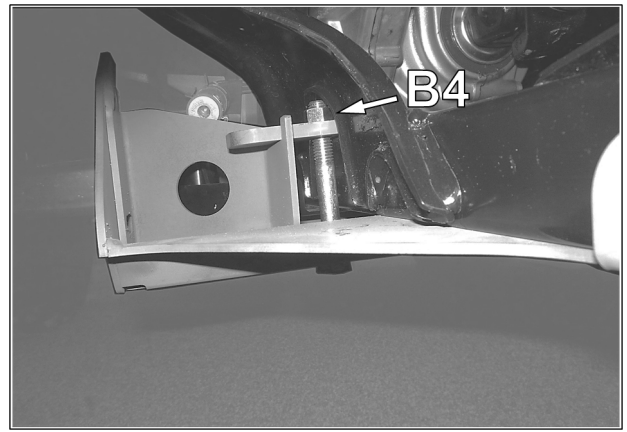

Fig. 6
- Secure the plate in position using nylon nuts (B4) over the bracket cover. Tighten these two assembly bolts to 50 N•m [37 lb•ft]. See Fig. 6